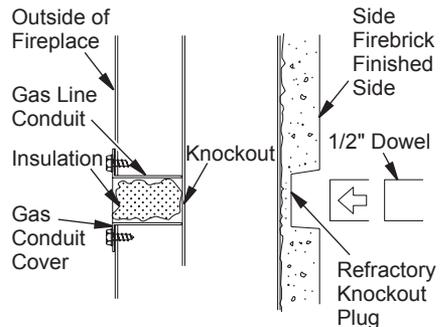

Figure 24 - Gas Line Knockout
1. Remove knockout indentation on refractory or firebrick wall located above the refractory hearth floor. Knockout indentation must be firmly tapped with any solid object such as a 1/2" dowel until it is released. Remove fragmented portions of refractory (see Figure 24).